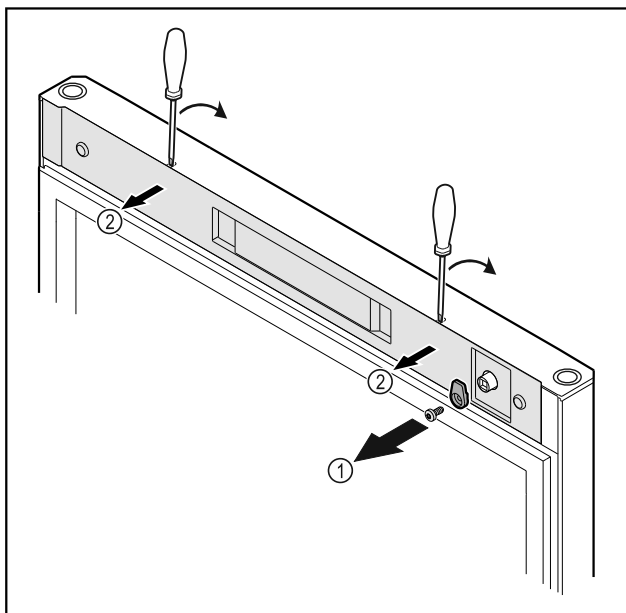

Fig. 18
- Unscrew the door latch Fig. 18 (1).
- Unlatch the cover Fig. 18 (2) with a small screwdriver and remove it.